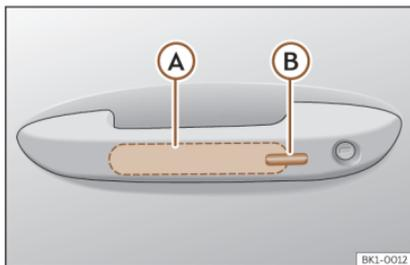

Fig. 61 Door handle: sensor surfaces
>>> Fig. 61
- Touch the sensor surface >>> Fig. 61 (B) on the outside of the door handle. All turn signals flash once
- Within 5 seconds, touch the sensor on the outside of the door handle >>> Fig. 61 (B) once. Do not grip the handle while doing so. This temporarily deactivates the Keyless Access system.